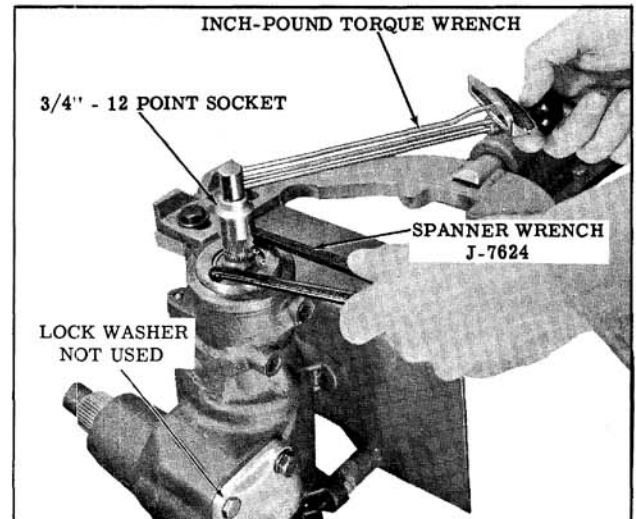

Fig. 8-71 Adjusting Thrust Bearing Pre-Load
- c. Install the four side cover bolts and three lockwashers and tighten to 30 ft. lbs. Refer to Fig. 8-71 for washer location.
- b. Install an inch-pound torque wrench with a 3/4" 12-point splines. (Fig. 8-71)